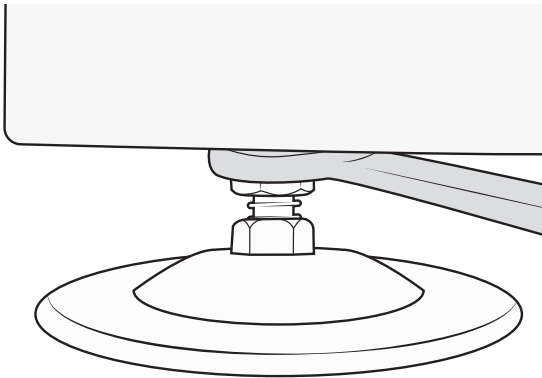

Figure 107
1. Loosen the counter nut on the feet at the foot end. See Figure 107.